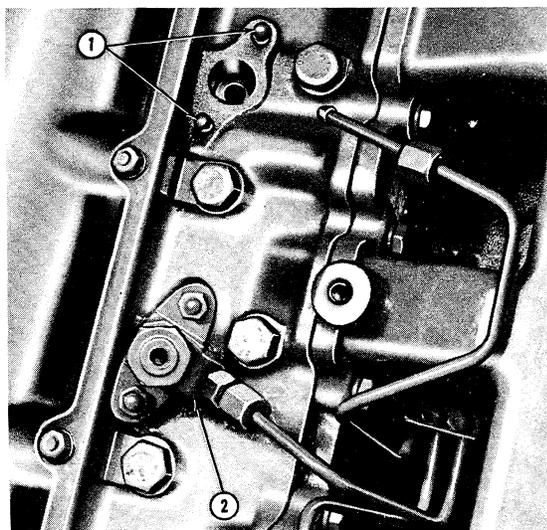

Figure 2
9. Disconnect the injector leak-off pipe and remove the injector and washers, Figure 2. Keep the injector area clean. Cap the openings and protect the nozzle tips.